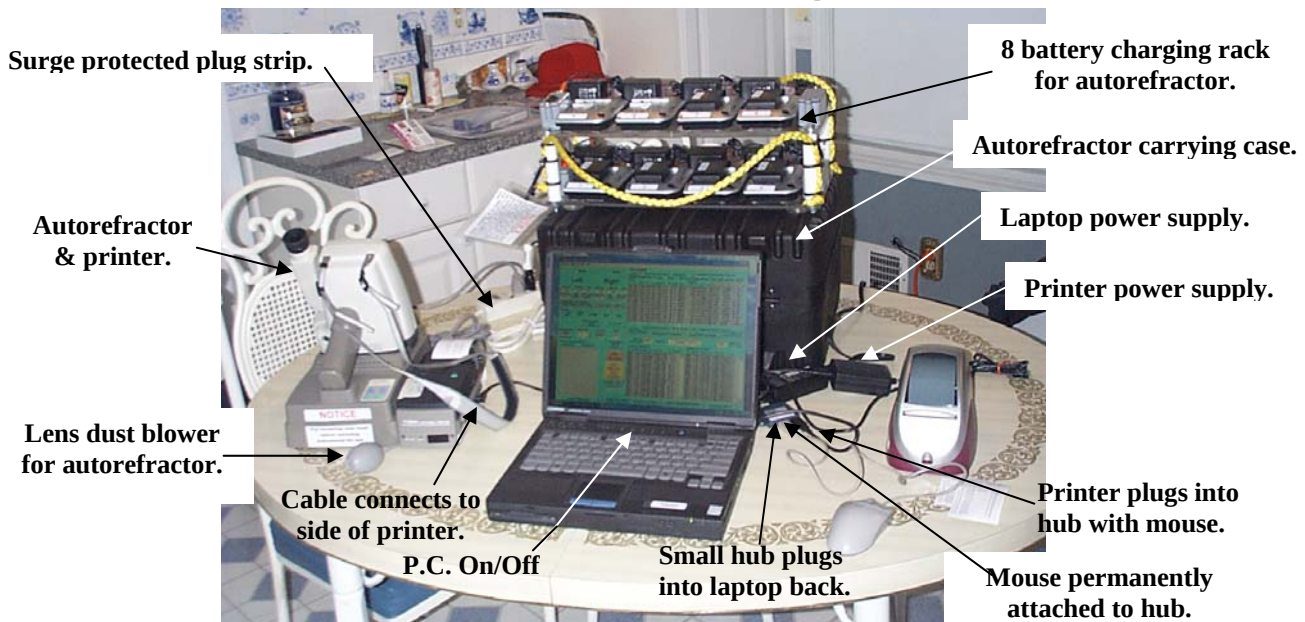
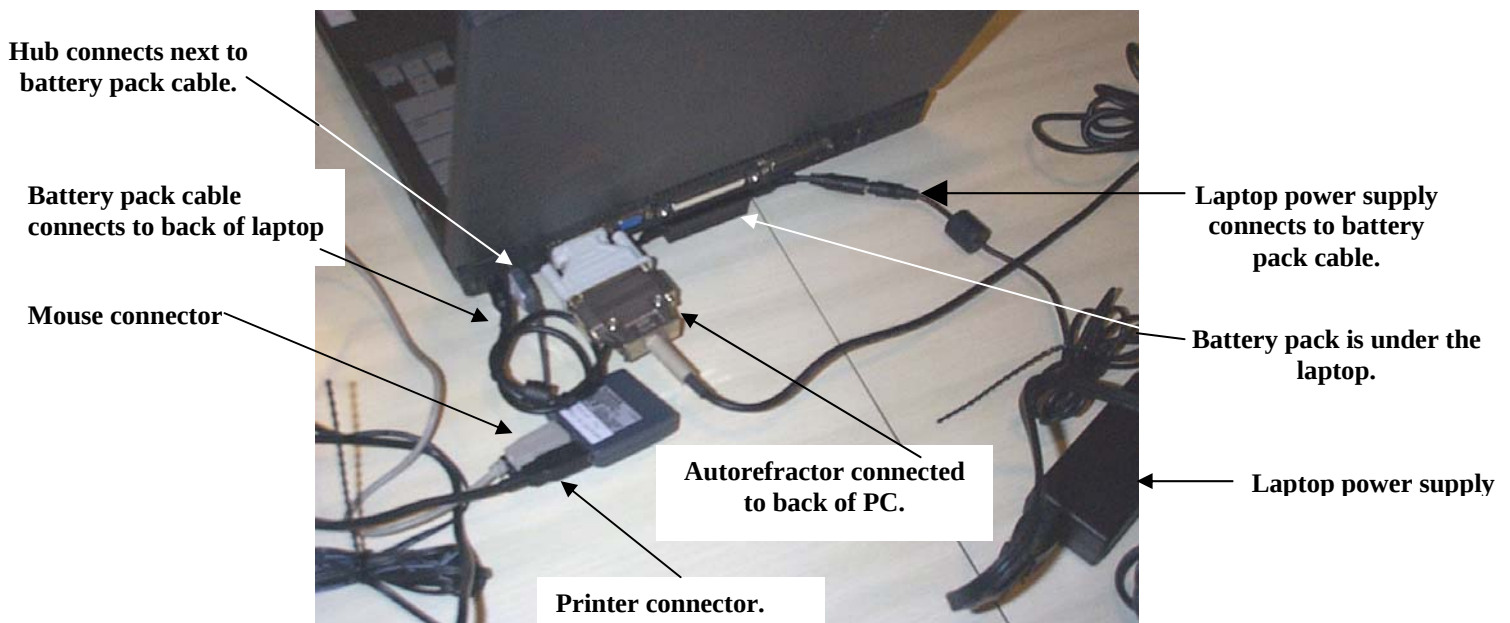

FIGURE 1
FIGURE 2
1. Setup the battery charging rack as shown in Figure 1. Connect this rack directly to a source of AC power. Do not connect to the UPS.
3. Place the laptop, autorefractor and Dymo labeler on a table in the optical clinic as shown in Figure 1. Make sure the autorefractor printer is attached to the side of the autorefractor stand and the power switch on the right side of the printer is turned on.
4. Connect the black autorefractor cable as indicated by the point **“Cable connects to side of printer”** shown in Figure 1 to the side of the autorefractor printer.
5. Connect this black cable to the back of the PC as shown by the point **“Autorefractor connected to back of PC”** in Figure 2.
6. Connect the laptop power supply shown by the point **“Laptop power supply”** in Figure 2 on one side to the battery pack cable (Point: **Laptop power supply connects to battery pack cable**). The power cord of the power supply will connect to a receptacle on the UPS.
7. After placing the battery pack under the laptop make sure its cable connects to the back of the laptop as shown in Figure 2.
8. Connect the miniature USB hub to the back of the laptop as shown at point **“Hub connects next to battery pack cable”** in Figure 2.
9. Make sure the mouse connector connects to the miniature USB hub as shown at point **“Mouse Connector”** in Figure 2 also the point **“Printer plugs into hub with mouse”** of Figure 1.
10. Connect the Dymo printer cable to the miniature USB hub as shown at point **“Printer connector”** in Figure 2 also the point **“Printer plugs into hub with mouse”** of Figure 1.
11. Connect the power cord from the printer power supply shown at point **“Printer Power supply”** in Figure 1 to a power receptacle on the UPS.
12. Connect the power cord for the autorefractor shown in Figure 2 at point **“Autorefractor and Printer”** to the back of the autorefractor stand and the other side to a receptacle on the UPS.
15. Power up the computer as shown in point **“P.C. On/Off”** in Figure 1.